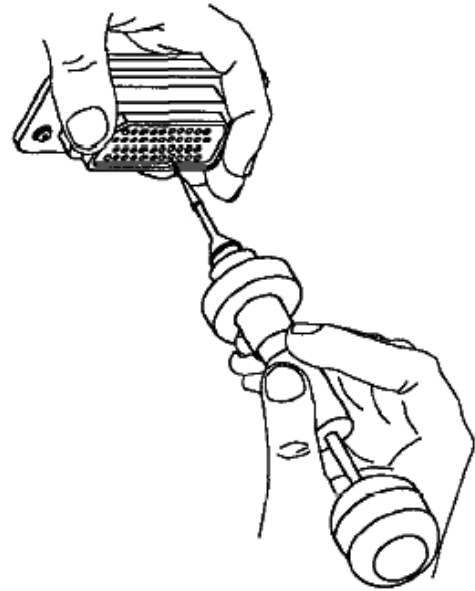

Figure 25. Extracting Contact from Connector
f. Remove tool and unlocked contact from connector by withdrawing tool from connector (Figure 25).